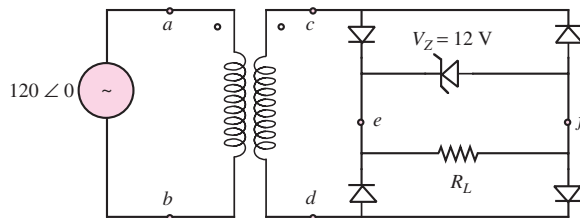

Figure P12.20
12.20 Figure P12.20 depicts a low-cost full-wave rectifier with a Zener diode voltage regulator. Sketch the voltages across terminals a - b , c - d , and e - f .